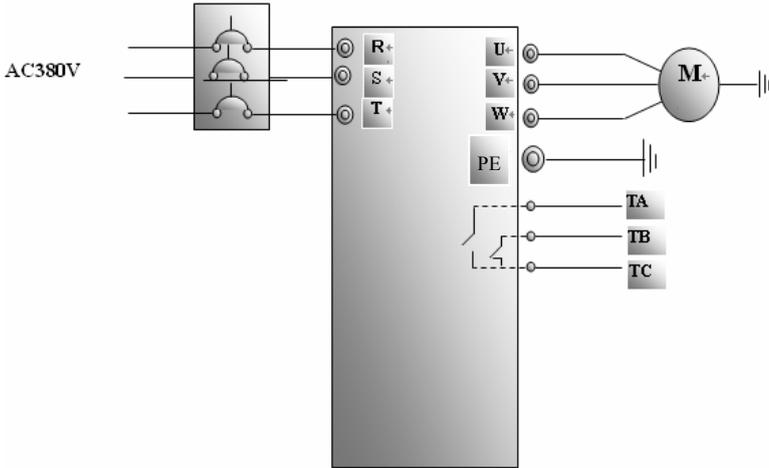

Figure 4-1 Wiring Diagram 1
- (1) Connect the wires in accordance with Figure 4-1. After having checked the wiring successfully, switch on the air switch, and power on the inverter.
(1) Connect the wires in accordance with Figure 4-1. After having checked the wiring successfully, switch on the air switch, and power on the inverter;
(2) Press the “Mode” key, to enter the programming menu.
- (3) Measure the parameters of the motor; the operation process is the same as that of example 1.
- (4) Set functional parameters of the inverter: